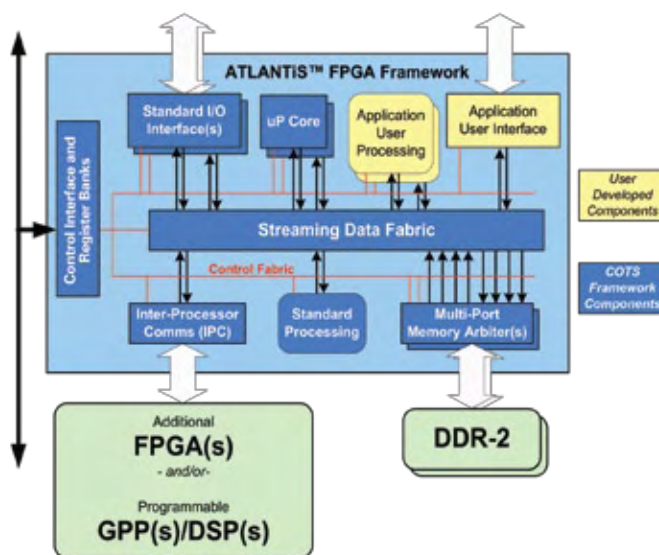

Figure 1
**JM:** In ATLANTiS, we're using standard interconnects and an orthogonal control plane, and we've done all the low-level physical interfaces and data movement structures that are standard in microprocessors or DSPs. (Figure 1.)